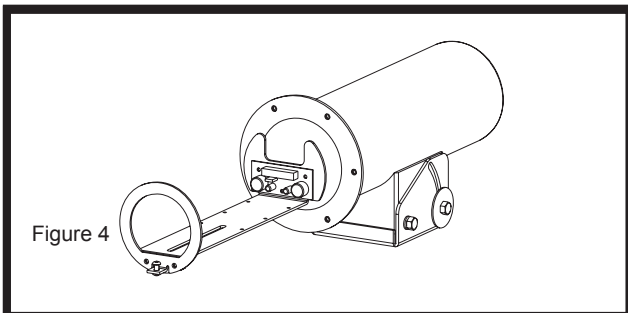

Figure 4
6. The camera sled should now slide out of the housing (Figure 4).